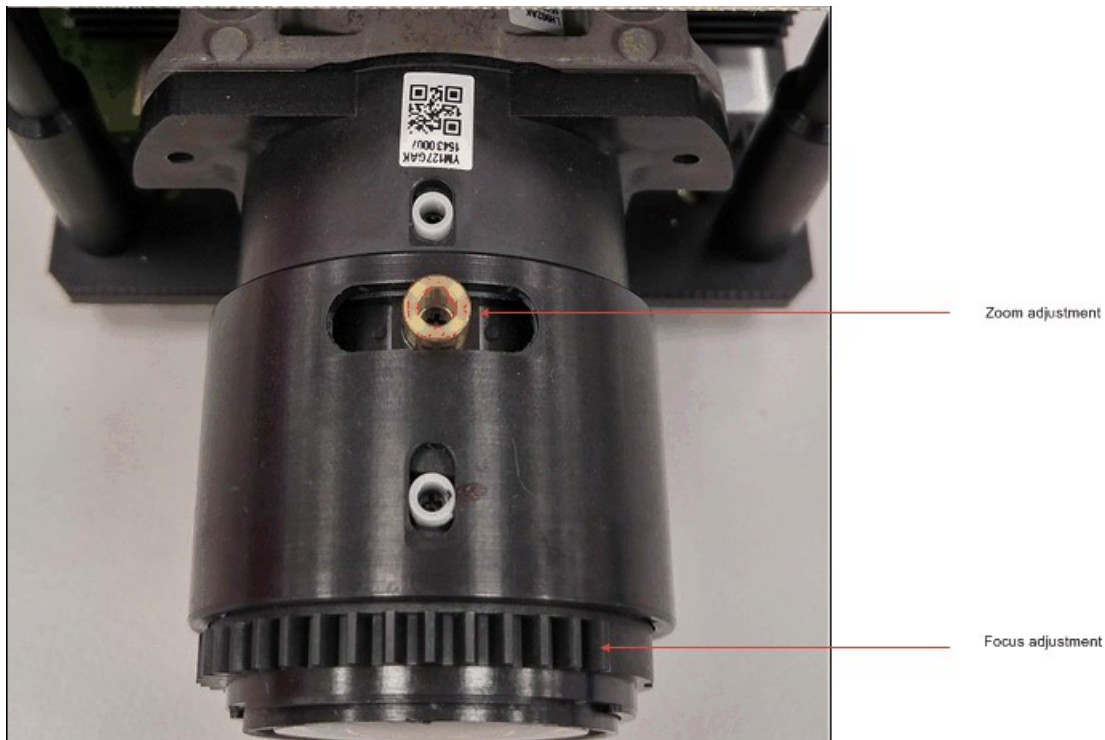

Figure 3. Optical Module With Focus and Zoom Adjustment
5. The focus and zoom of the image can be adjusted on the optical module (Figure 3).